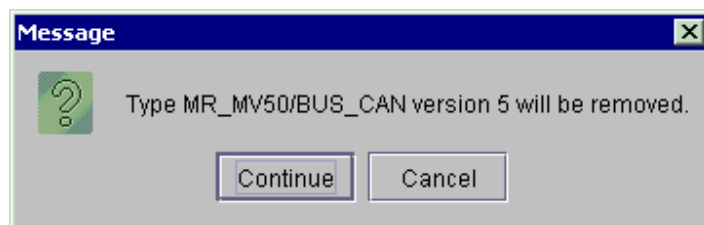

Figure 116 : Delete type message
- ◆ Select the **Delete model** command; a *Message* window (Figure 116) is displayed indicating that the type will be deleted.